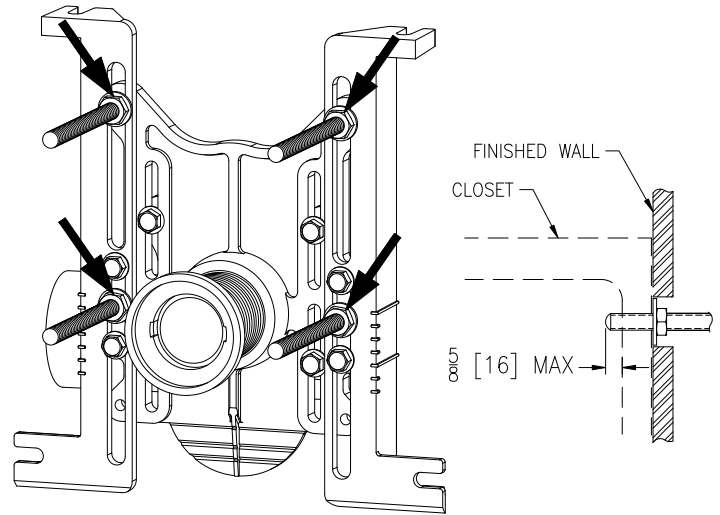

Fig. 11
11. Prep for finished wall. Fasten the (4) threaded rods from the finish bag into the faceplate, through the foot slots until each rod extends 5/8" [16mm] past the closet bowl flange. Add included 5/8" [16mm] washer to each rod, and secure nut on each of the four rods. See Fig. 11